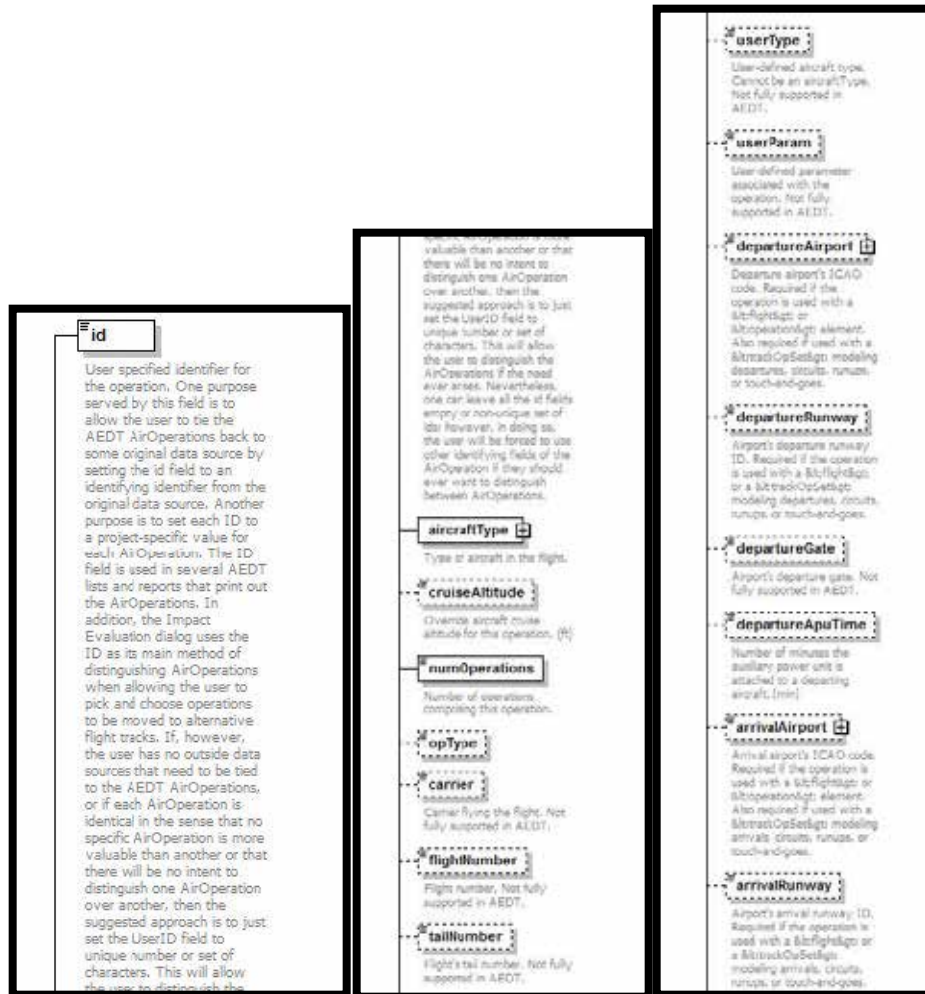
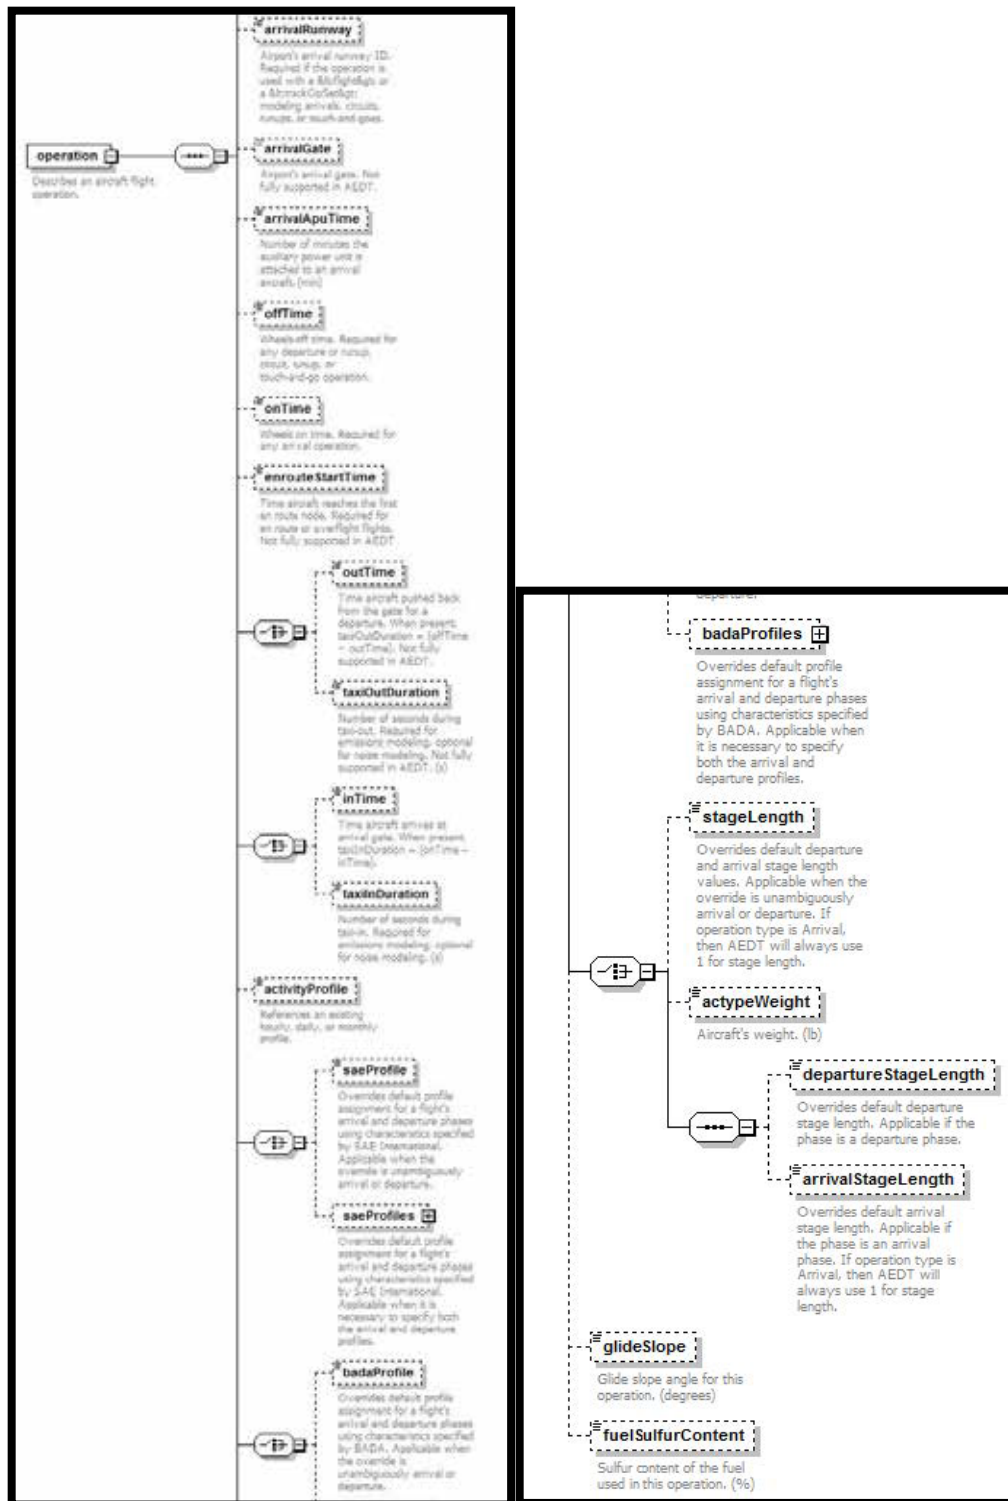

Figure 72. ASIF element – operation. 1 -> 2 -> 3
Figure 73. ASIF element – operation. 4 -> 5
16. AsifXml/study/scenario/case /operation (Figure 72 and Figure 73):